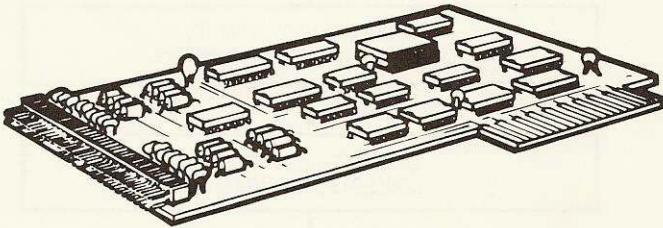

Fig. 2 Host adapter card
| Figure 2 | Host Adapter Card 1 - 4 |
- * The host adapter card, depicted in Figure 2.
Now you're ready to connect the host adapter card (see Fig. 2) to your Apple computer. Because of the differences between the Apple //e and] [Plus computers, separate sections of this guide explain host adapter card installation for the two computers. Host adapter card installation instructions for the Apple //e begin in the following section; installation instructions for the Apple] [Plus follow the //e instructions.